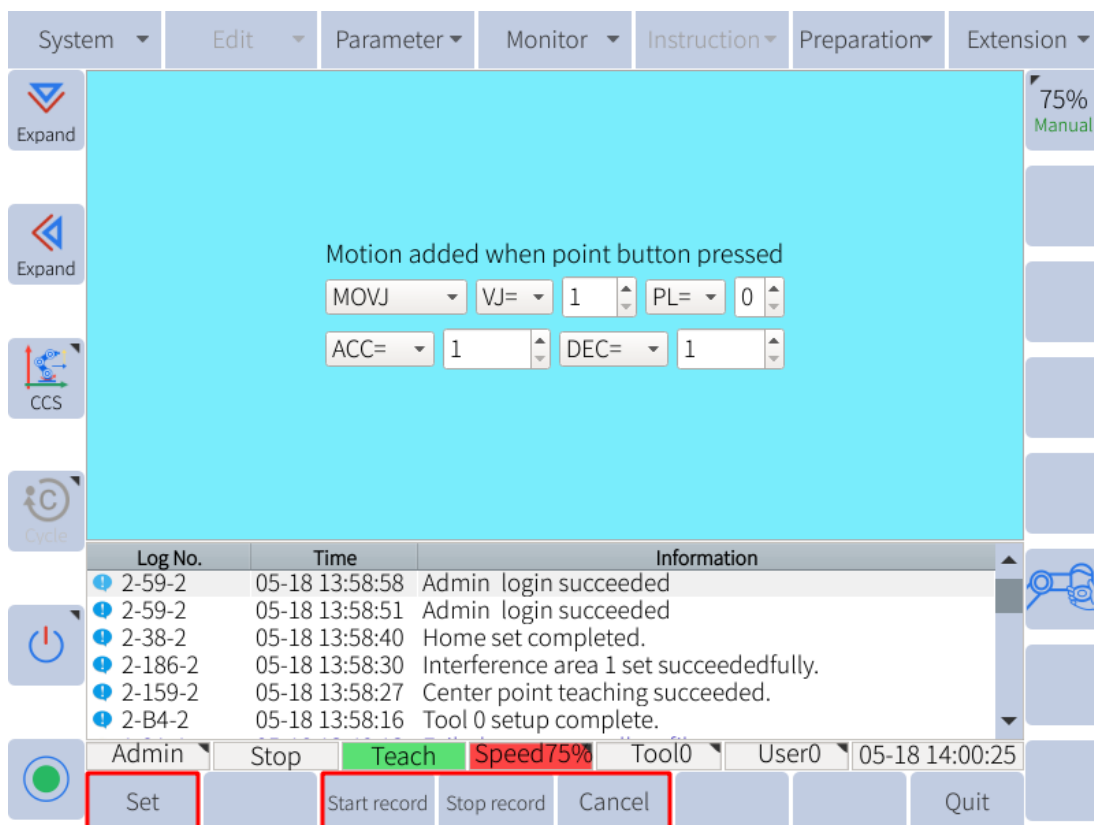

Figure 6-53 : Drag to mark
1. Select **Extension -> Flange IO -> Drag setting**, as shown in **Figure 6-53**